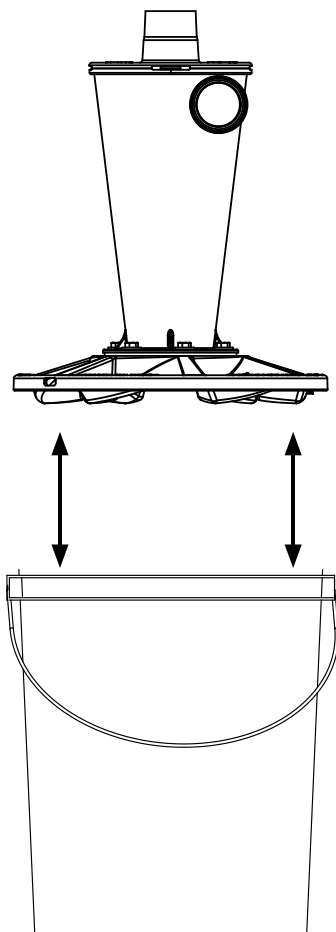

FIG. 3a
Snap the Cyclone (A) and Lid assembly onto the Bucket (F) and ensure it's fully seated [FIG. 3a]. The lid will make an audible click as it seals close.